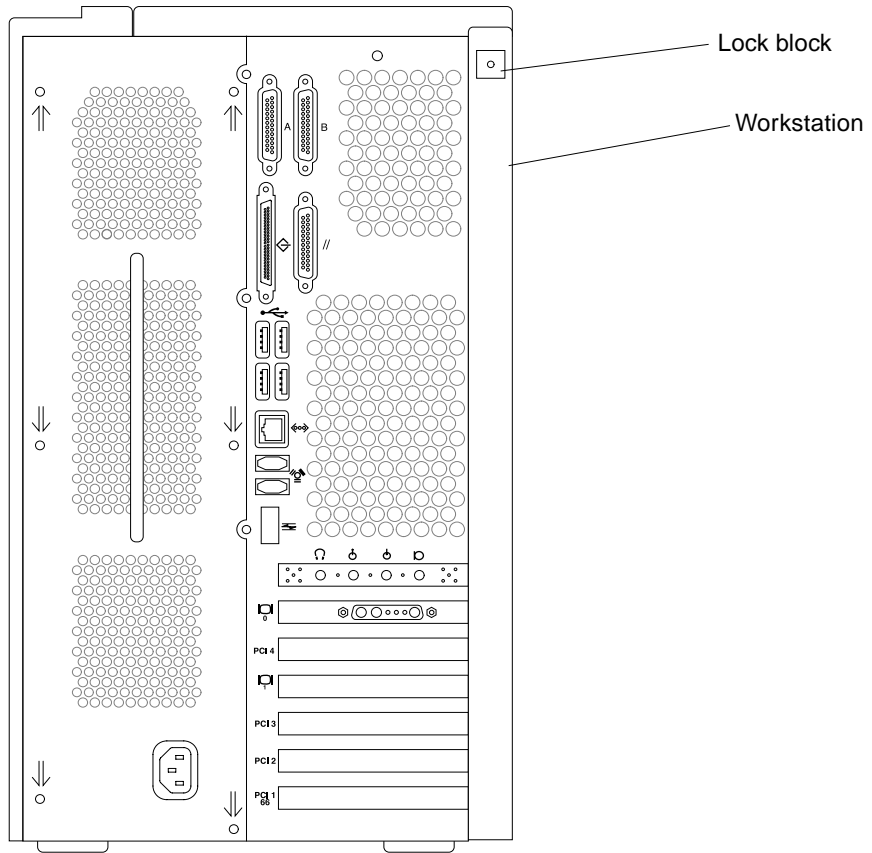

FIGURE 5-2 Lock Block Location
5. Remove the lock block, if one is installed (FIGURE 5-2).